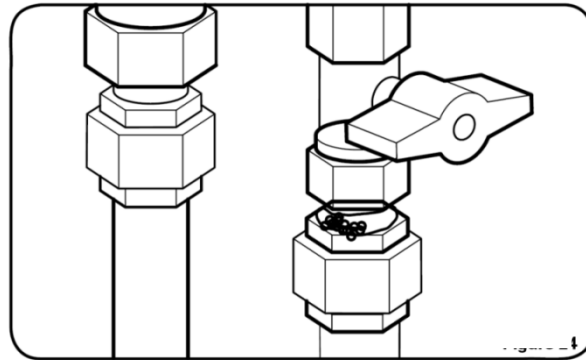

Figure17
- Use soapy water to test for leakage at all gas connections and fittings. If bubbles are seen, it indicates there is a leak and MUST be rectified – see Figure 17.